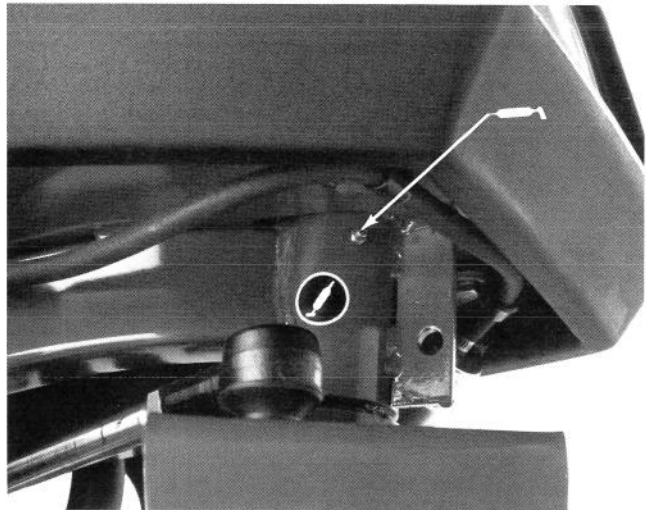
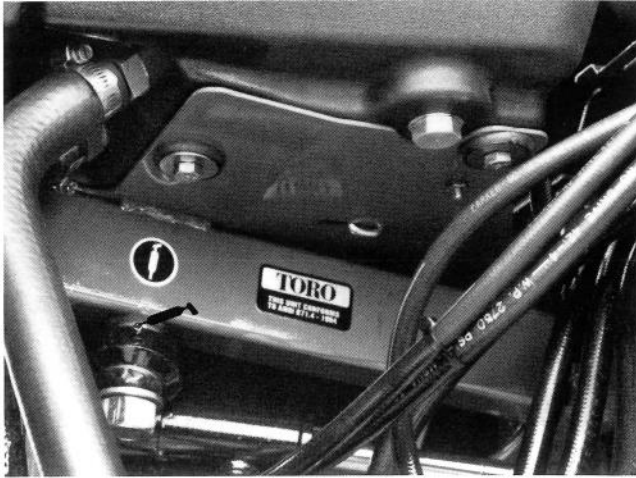

Figure 26
Figure 29
The traction unit bearings and bushings that must be lubricated are: Rear wheel bearings (1) (Fig. 25), Steering fork shaft (1) (Fig. 26), Lift arm pivot (3), Pivot hinge (3) (Fig. 27), Pull frame shaft and roller (12) (Fig. 28), Power steering cylinder (1) (Fig. 29), Mow lift pivot (1) (Fig. 30) and Lift cylinders (3) (Fig. 31)